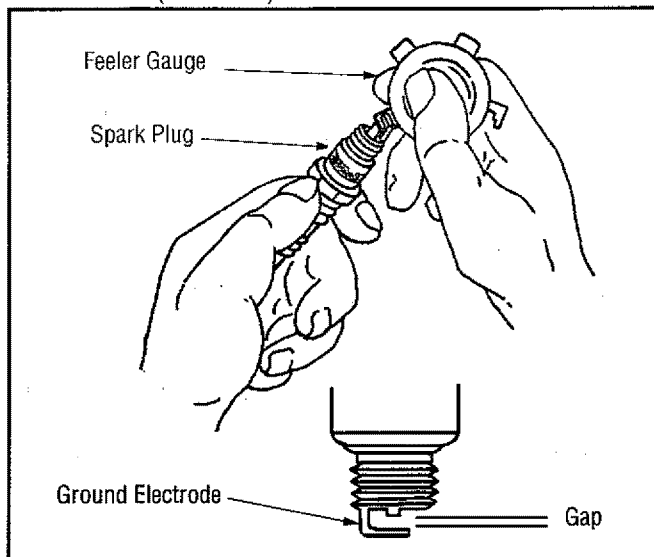

Figure 19
6. Check the gap using a feeler gauge and adjust, if necessary, by carefully bending the ground electrode. See Figure 19. Set the spark plug gap to 0.030 in (0.76 mm).